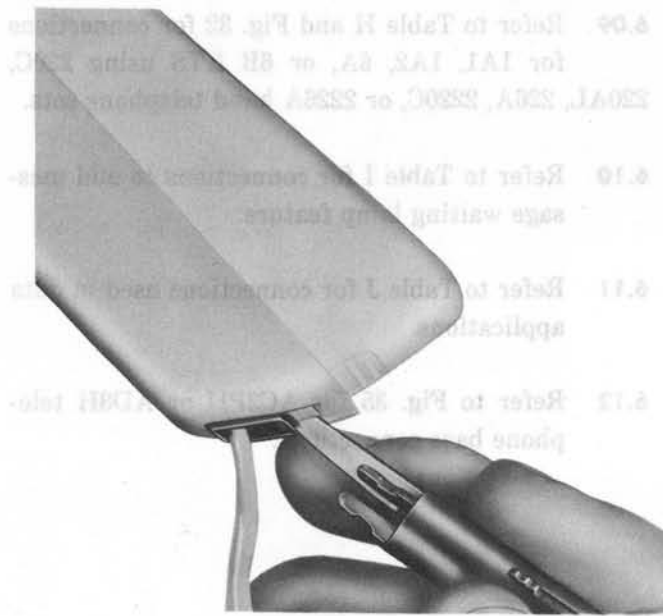
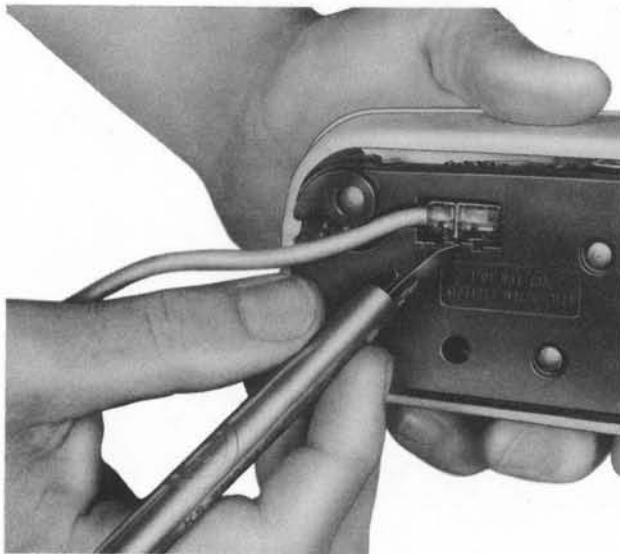

Fig. 22— Handset Cord From Hand Telephone Set Using KS-21107L1 Tool
Fig. 23— Mounting Cord From AD1 (MD) Telephone Base Using KS-21107L1 Tool
5.06 To replace a plug ended H4DB, H5AA, or H5AD handset cord (Fig. 22) or D5AL or D5AN mounting cord (Fig. 23), use a KS-21107L1 tool. Insert tool in space provided and hold releaser similar to using a paring knife to apply pressure on the spring clip. When spring clip has been depressed, pull plug out of jack. The plug end of the D4BU and H4DU cords can be removed from a jack by depressing the locking tab and pulling plug out.